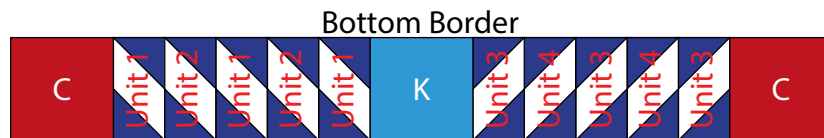

Fig. 12
9. Repeat Step 8 and refer to Figure 12 for fabric identification, placement and orientation to make the Bottom Border.